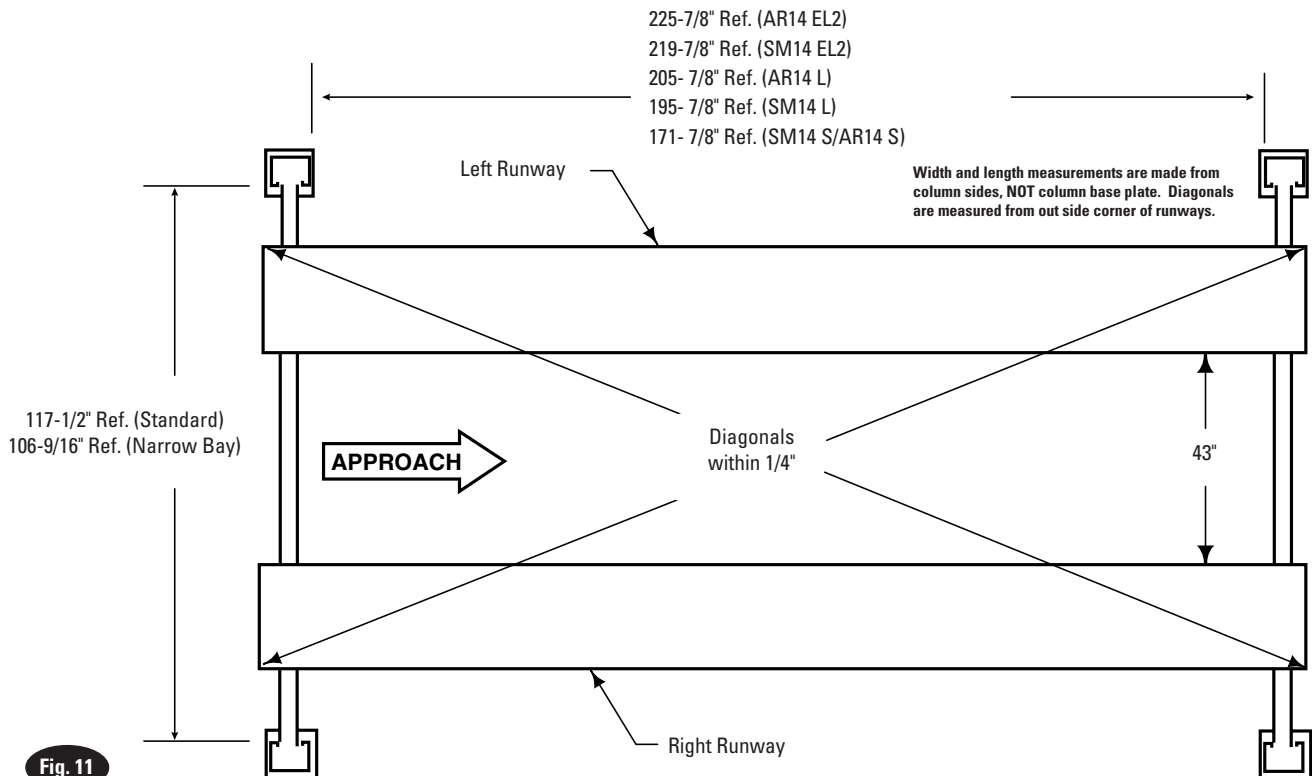

Fig. 11
- A. Keep columns square to center line of lift. Check lift location in the bay. Check dimensions side-to-side, front-to-rear, and diagonally. Diagonals must be equal to within 1/4", Fig. 11.